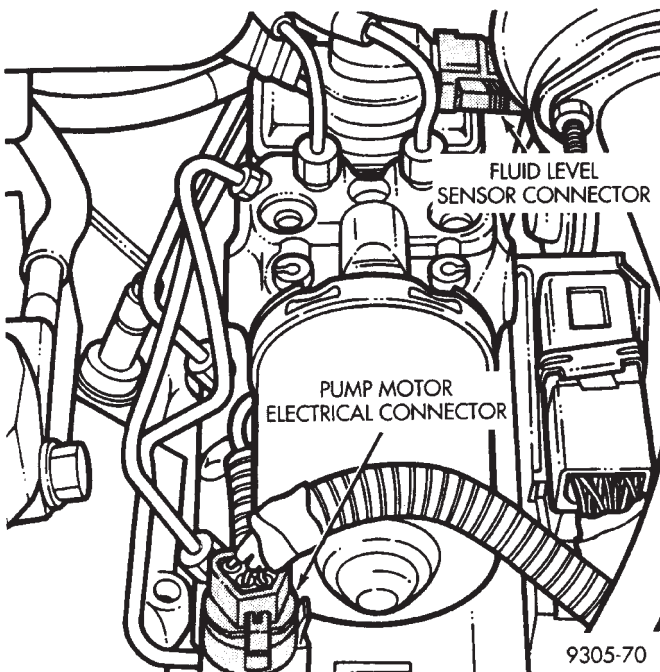

Fig. 12 (HCU) Electrical Connections
(6) Connect the pump motor and fluid level sensor, vehicle wiring harness connectors back onto the their connections on the (HCU) (Fig. 12).